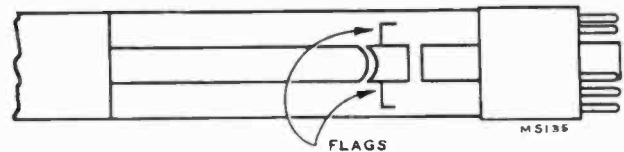

Figure 5—Ion Trap Flags
**ION TRAP MAGNET ADJUSTMENT.**— Looking at the kinescope gun structure, it will be observed that the second cylinder from the base inside the glass neck is provided with two small metal flags, as shown in Figure 5.